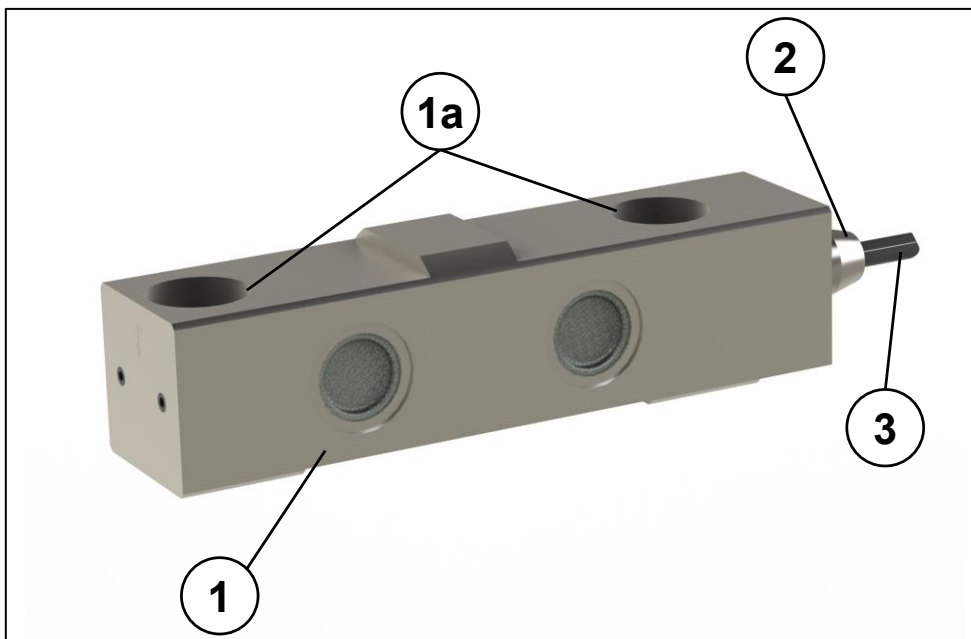

Figure 1: Normal force transducer
The BROSA Type 0250 normal force transducer is designed to detect the force in two-way shear connections in or on machines and devices of all kinds. Figure 1 shows the typical layout:
The normal force transducer (1) is mounted on the correspondingly shaped bearing surfaces (2), of the double shear connection and secured against unintended movement by means of the aforementioned features (see Figure 1). On the opposite surface of the normal force transducer, a defined force contact surface is located centrally. The force  $F$  applied there is transmitted to the measuring electronics by evaluation of the resulting deformation of the measuring body and output as an electrical signal.